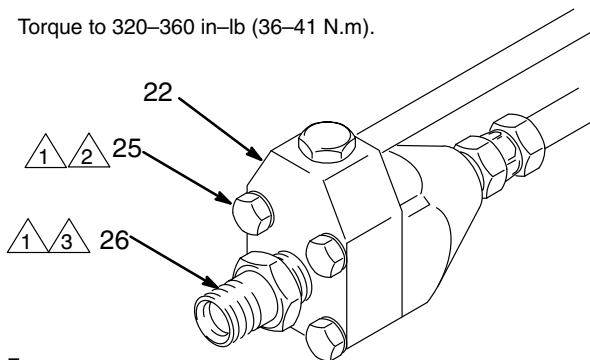

Fig. 5 0273
10. **After the first 3 to 5 hours of operation** torque the four screws (25) on the bottom of the paint pump to 170–200 in-lb (19–23 N.m). See Fig. 5.
11. **Also torque** the inlet valve (26) to 320–360 in-lb (36–41 N.m).